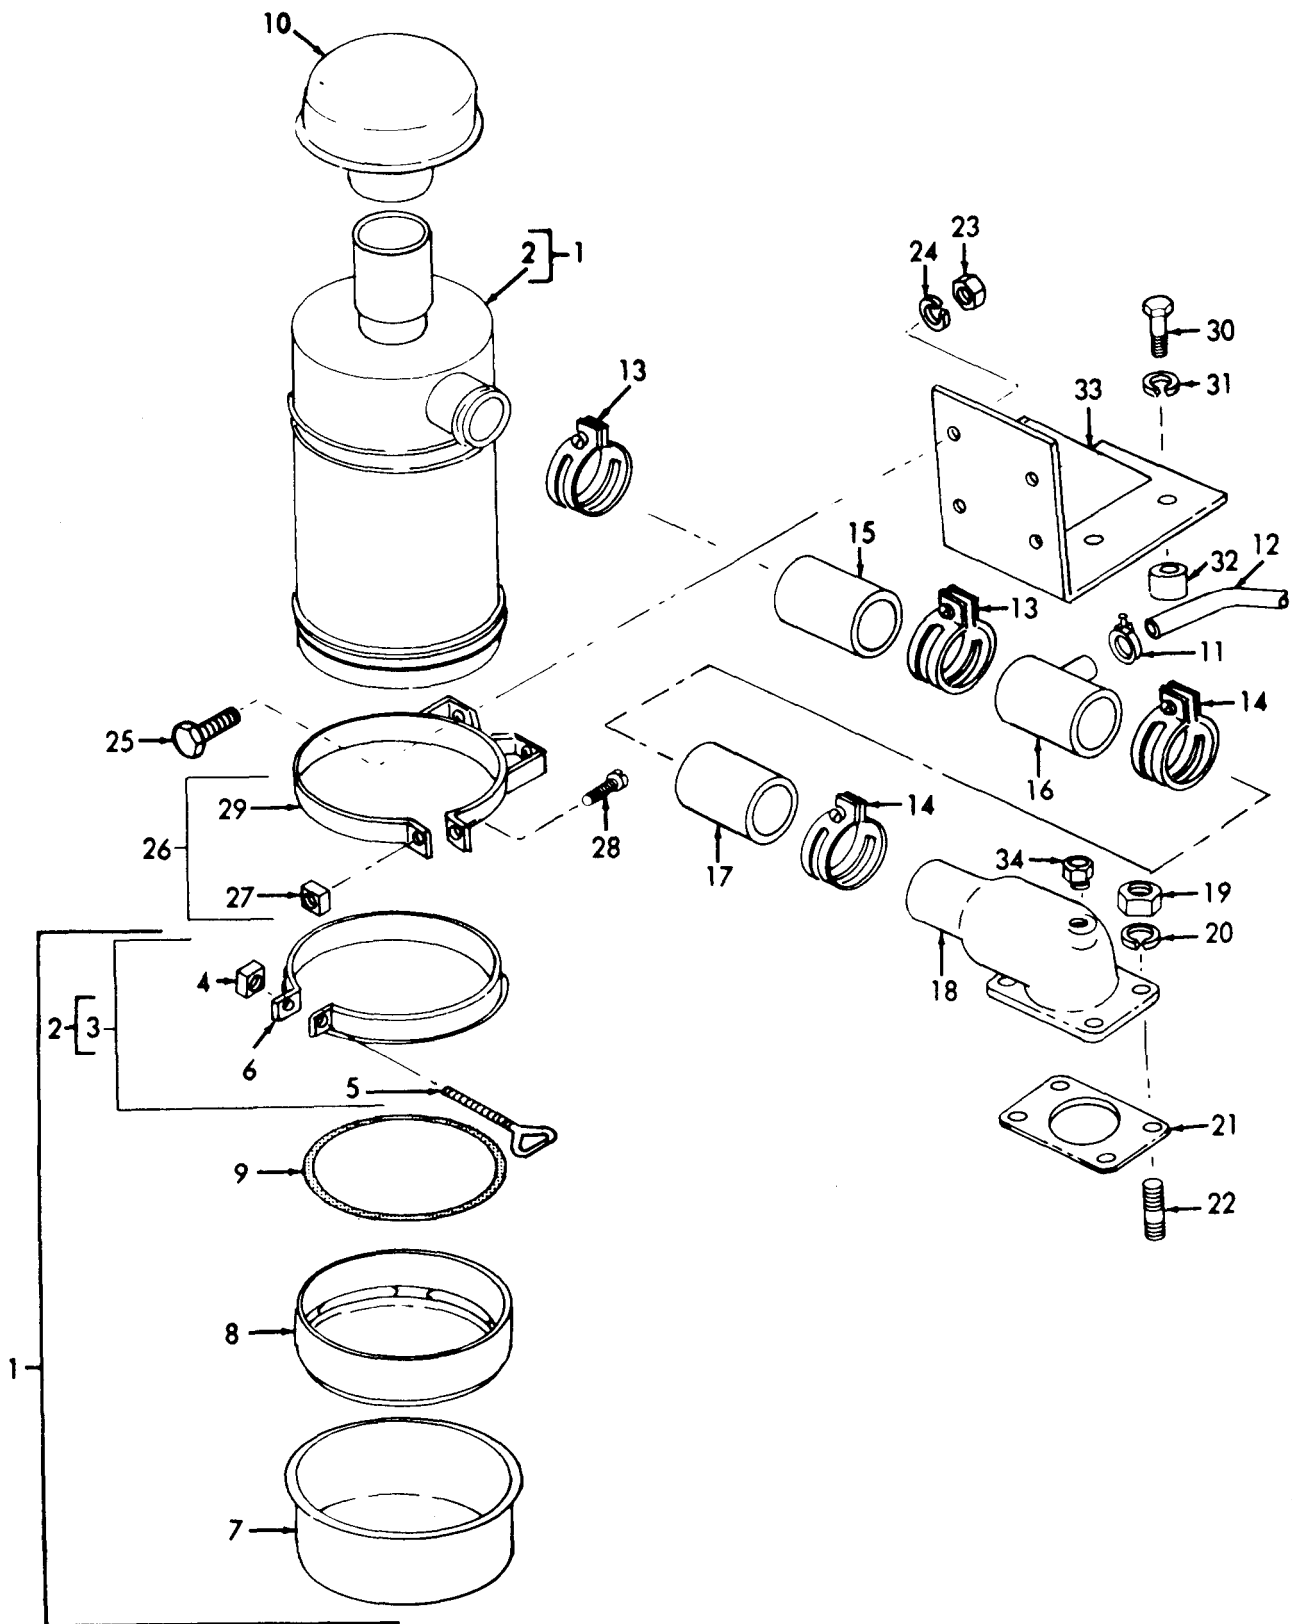

Figure 11-1. Air Cleaner and Tube.
- (1) Remove air cleaner as illustrated in figure 11-1.
- (2) Loosen clamp screw and clamp and remove oil cup (fig. 11-1) from the air cleaner.
- (1) Install the air cleaner as illustrated in figure 11-1.
- (2) Fill oil cup to proper level. Install the oil cup on the air cleaner and secure with clamp and clamp screw.
## LEGEND FOR FIGURE 11-1: